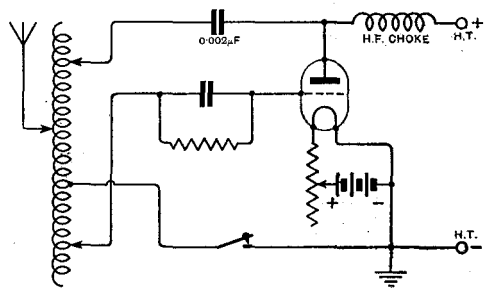

Fig. 1. "NEON" (Adel). Small power transmitter connections.
before the unit could be used in a telephony transmitter. (3) The wavelength of this coil would be approximately 50 metres. (4) The circuit suggested is not very satisfactory. We recommend that you use that given in Fig. 1.